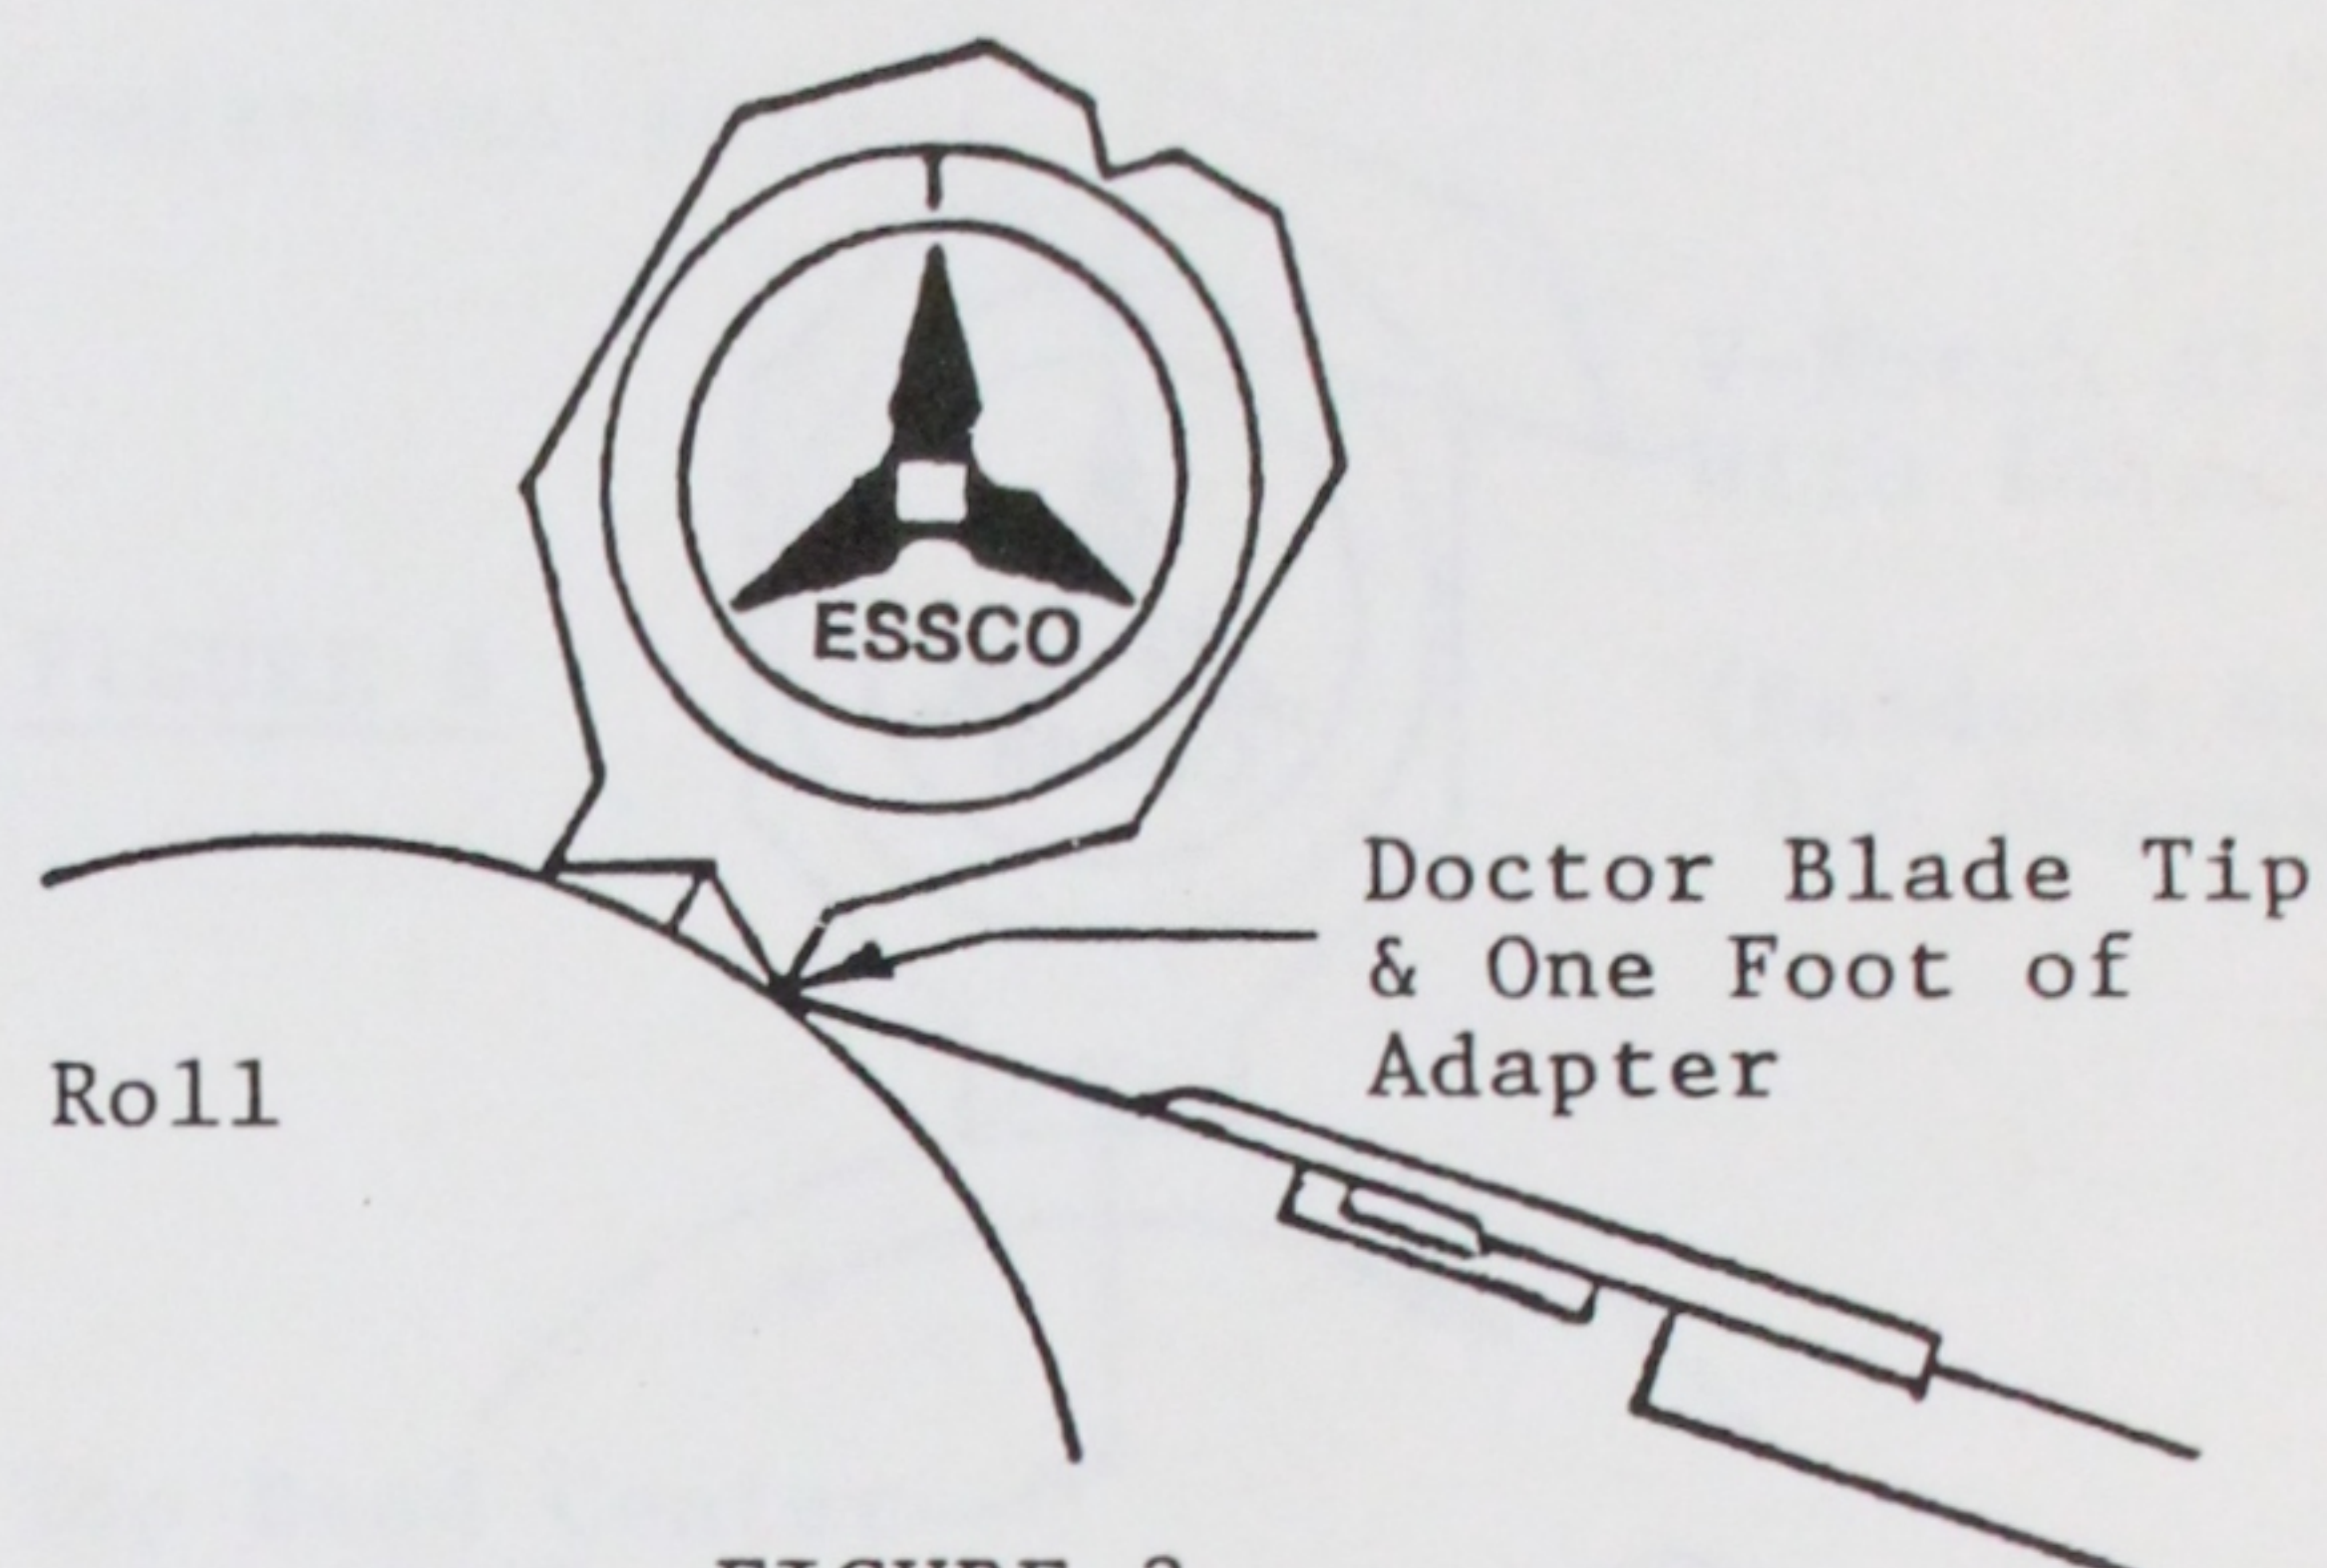

FIGURE 3
1. Place one foot of adapter against blade tip at either tending or drive side end of roll. (See Figure 3)